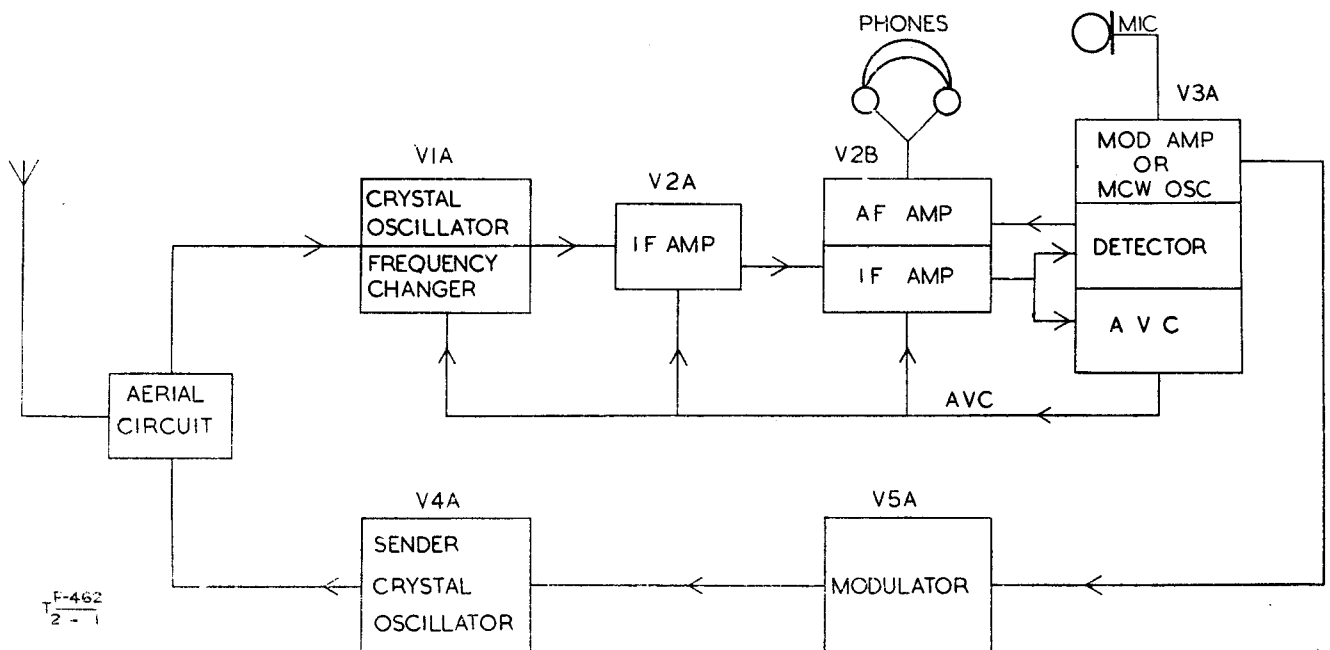

Fig. 1—Block diagram
17. V4A (ATP4) acts as a crystal-controlled oscillator with a tuned anode circuit. The output transformer T1A is connected to the V4A grid circuit through R7B. Sidetone may thus be heard in the headphones and this gives an indication of the output of the sender oscillator. If C4A is turned down from maximum capacity, the sidetone suddenly becomes loud. This point is the setting of C4A for maximum sender output (see Fig. 1).